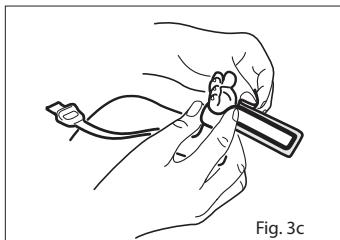

Fig. 3c
4. Refer to Fig. 3c. Wrap the adhesive/foam wrap around the lateral aspect of the foot (or hand) and ensure that the emitter window (✳) aligns directly opposite of the detector. Be careful to maintain proper alignment of the detector and emitter windows while attaching adhesive/foam wrap to secure the sensor.